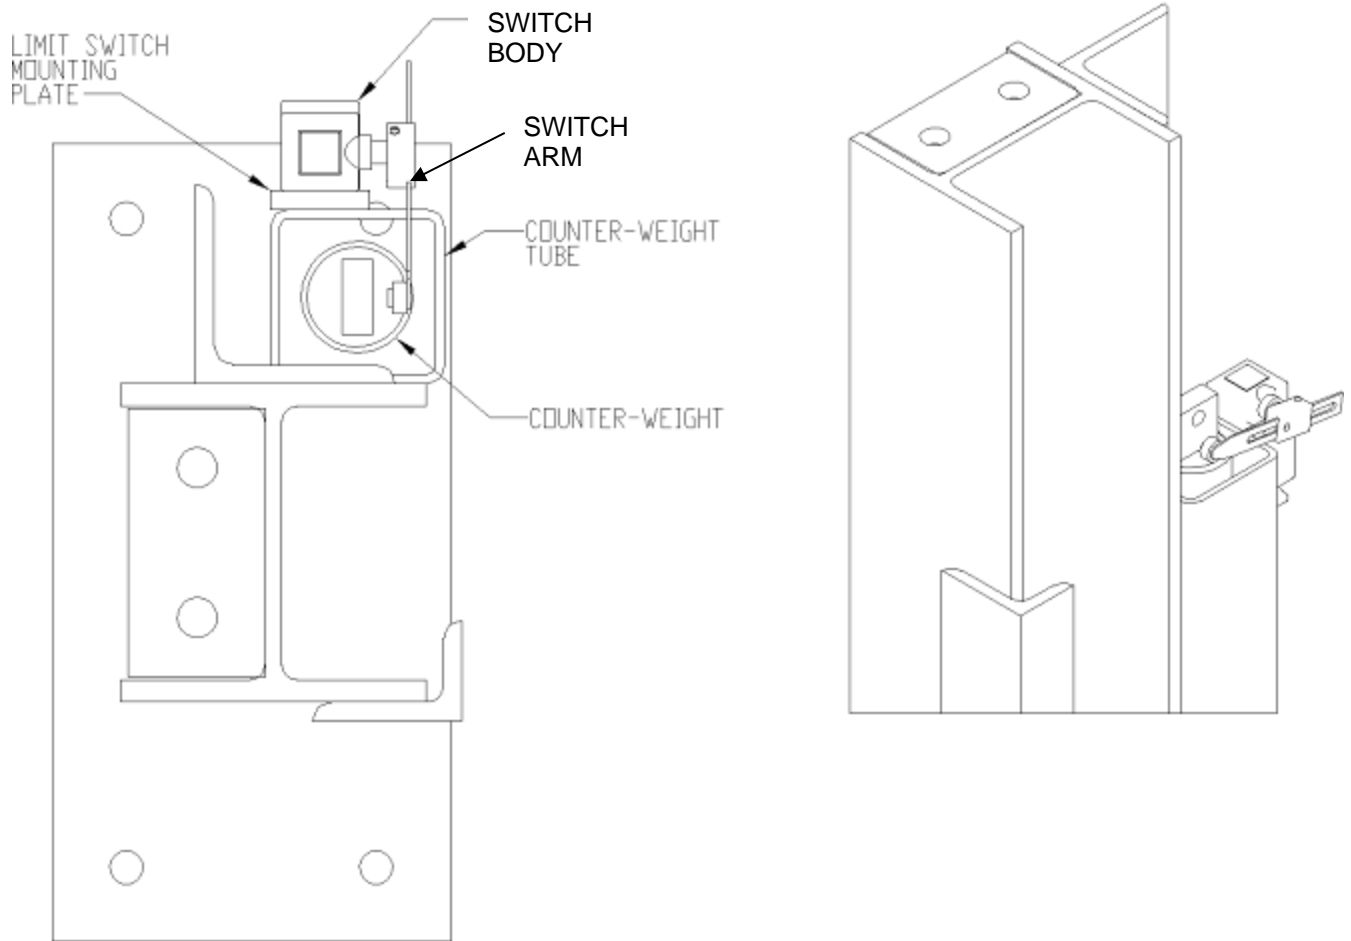

Figure 34 Counterweight Sensing Switch Location
L. INSTALLING COUNTERWEIGHT SENSING SWITCH (Reference Figure 34)